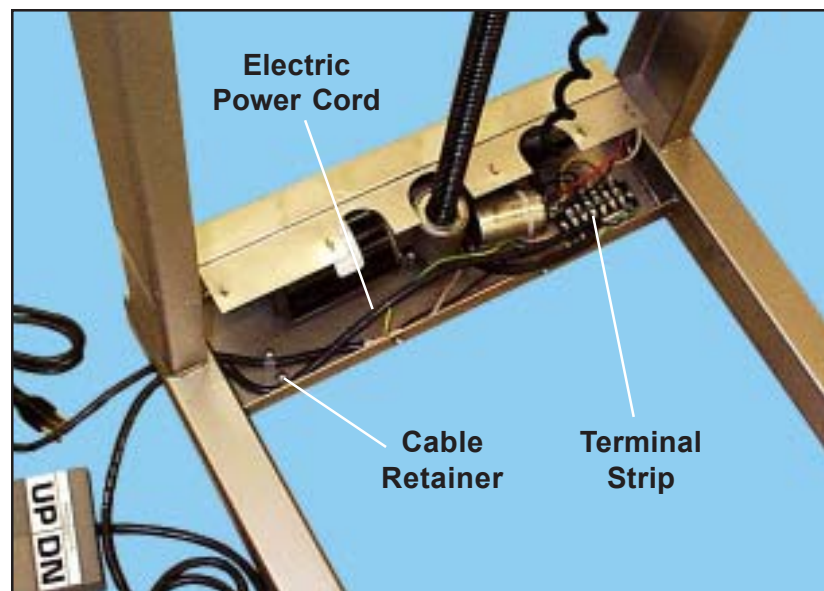

Figure 38. Electrical Power Cord and Terminal Strip
5. With a Phillips screwdriver, remove the cable retainer and free the electric power cord (Figure 38).
6. Use a small, flat-blade screwdriver to disconnect the three electric power cord wires (black, white, green) from the terminal strip and ground screw (Figures 38).
3. Place the cable into the cable retainer and re-mount the retainer in the tray (Figure 38).